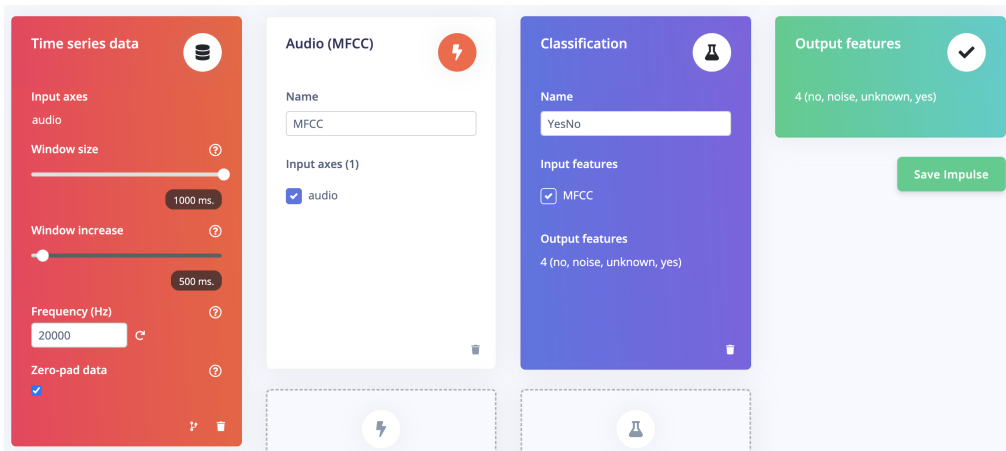

Figure 10.2: The impulse setup should look similar to this. Note the frequency is 20kHz.
- 12. The impulse should look like what is shown in Figure 10.2